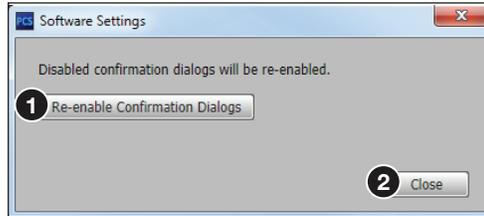

Figure 31. Software Settings Dialog Box
2. Click the **Re-enable Confirmation Dialogs** button (see figure 31, ①). The dialog box closes and the reset is complete. Click the **Close** button (②) to close the dialog box without re-enabling the confirmation dialogs.